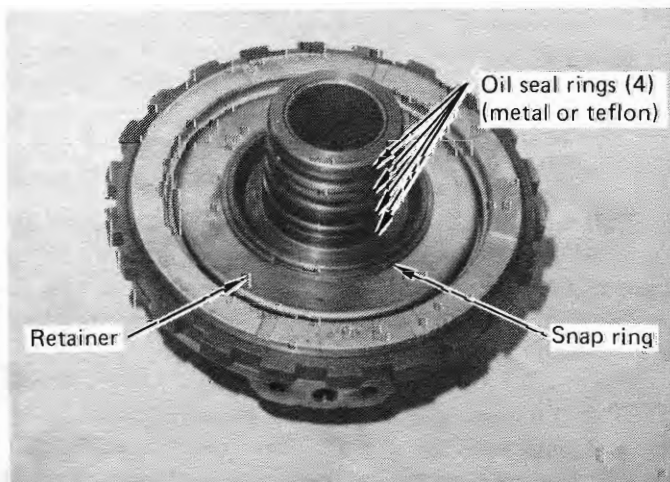

FIGURE 29
STEP 4. Remove and discard four metal hook-type or teflon seal rings from the front of the center support. (See Fig. 29) Remove the spring retainer snap ring. Remove retainer and three to twelve return springs. Remove and discard two rubber lip seals. Put springs, retainer and snap ring in oil pan.